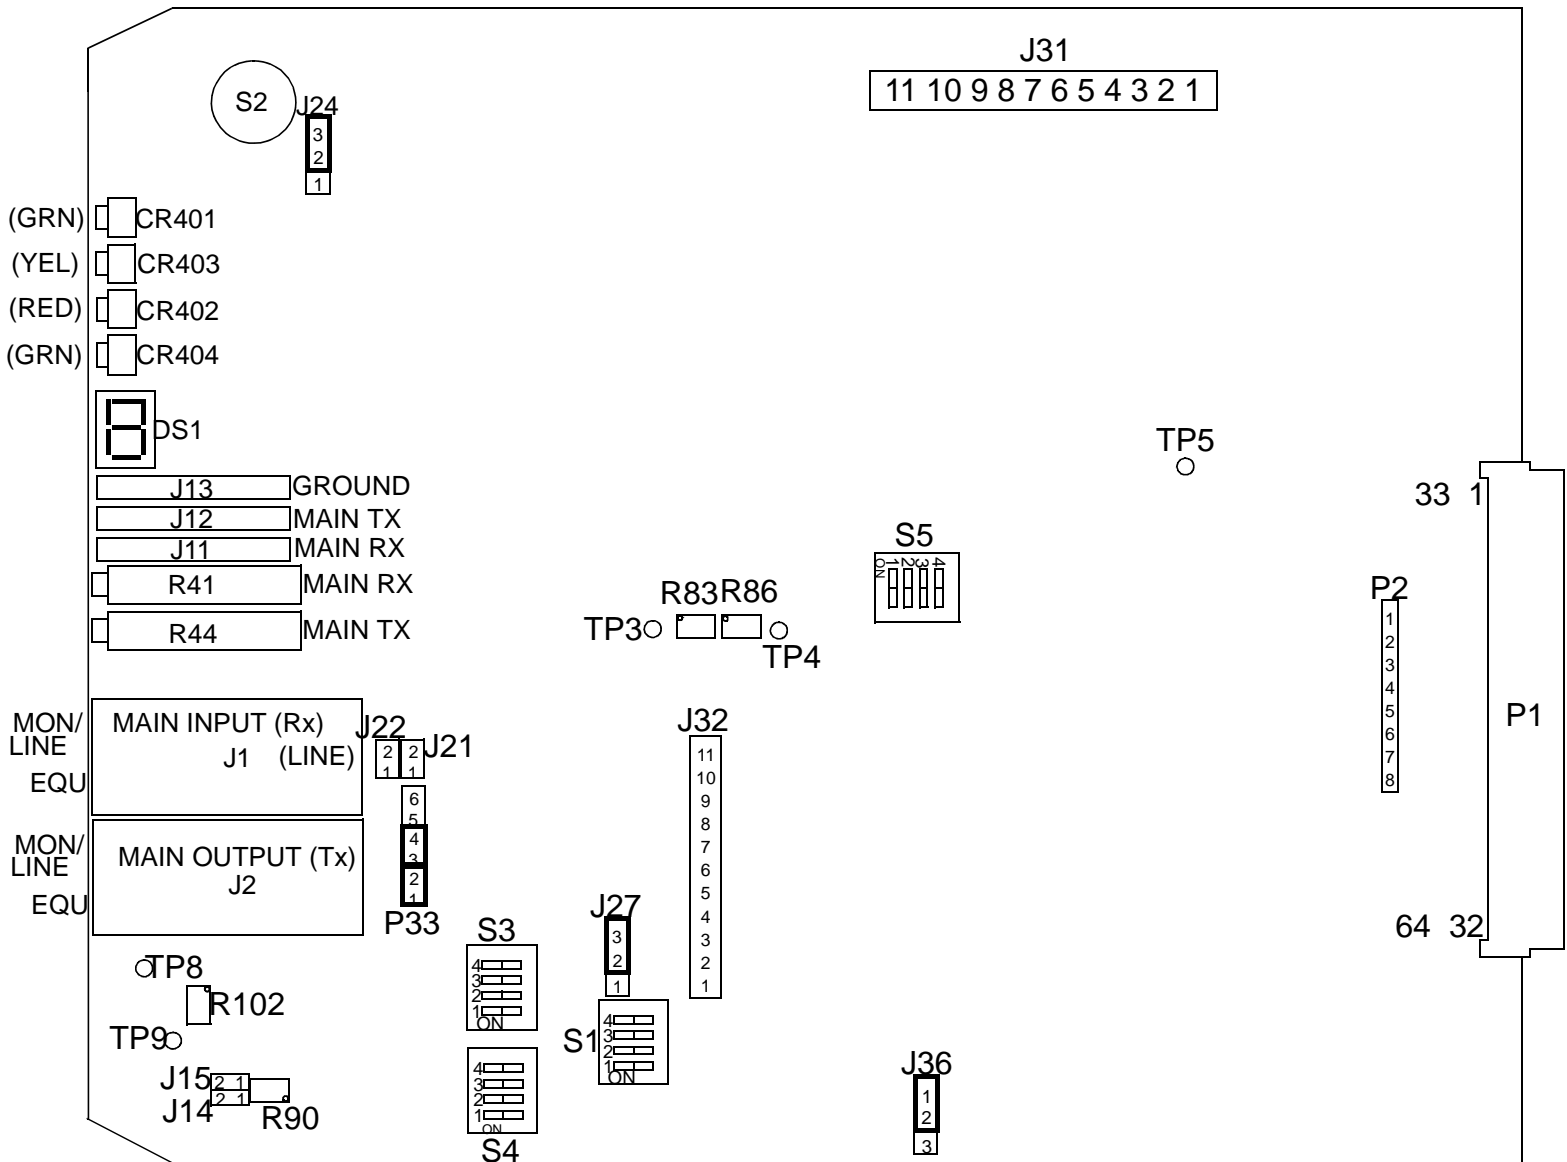

Figure 2-10 CIM ALIGNMENT POINTS
5. On the associated CIM, connect the transmission test set between J11 and ground (see Figure 2-10).